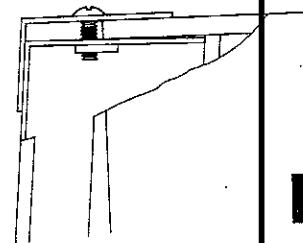

FIG. 2
- STEP 2** - With the tabs hooked under the edge of the heater, pivot the Blower Assembly toward the heater until the Blower is tight against the side of the heater. The heater TOP should slip into the SLOT of the Blower Assembly as shown in Figure 2.